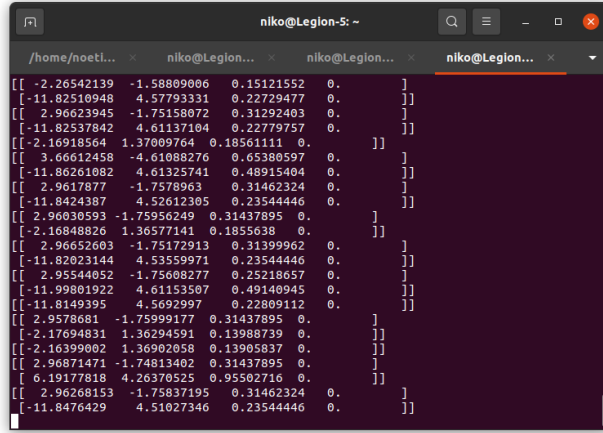

Figure 4: Sensor Fusion node output
- `"/sensor_fusion/output"`: here we publish the 3D position of the cones and their type. The data are encoded as `Float32MultiArray`, where each entry has this format: `[x,y,z,c]`, where the first three variables are the one coming from the lidar cone detection node, and 'c' is the cone type, provided by the stereo cone detection node, as shown in Figure 4. Usually, the stereo camera model can recognize a major quantity of cones with respect to the lidar one. As a consequence, this node can output data only in case of a cone is recognized by both the before mentioned models. Whether any of the two models can't recognize a cone, means that either the 3D position are missing or the cone type, so the output would not be consistent.